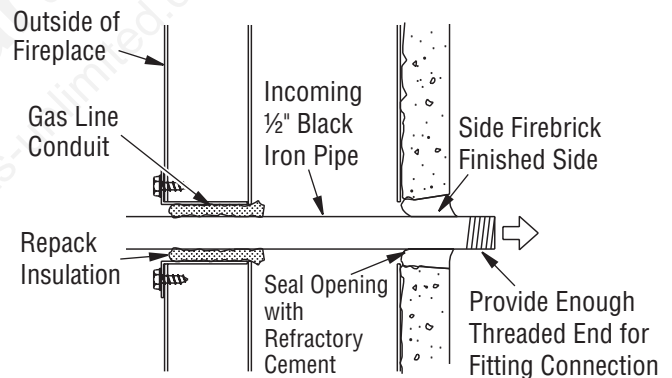

Figure 22 - Gas Line Installation
3. Run a 1/2" black iron gas line into fireplace through rear gas line conduit sleeve (if using a raised platform, add height). Provide sufficient gas line into fireplace chamber for fitting connection (see Figure 22).